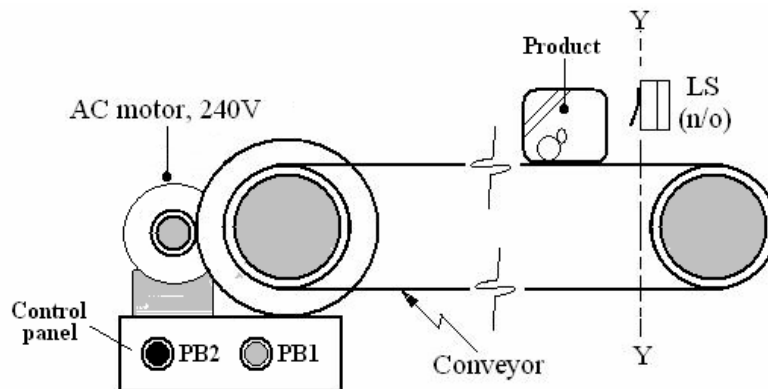

Figure 6
6. Figure 6 shows a conveyor system, which is operated by an AC motor, 240V. The criteria of the operational system is as below: